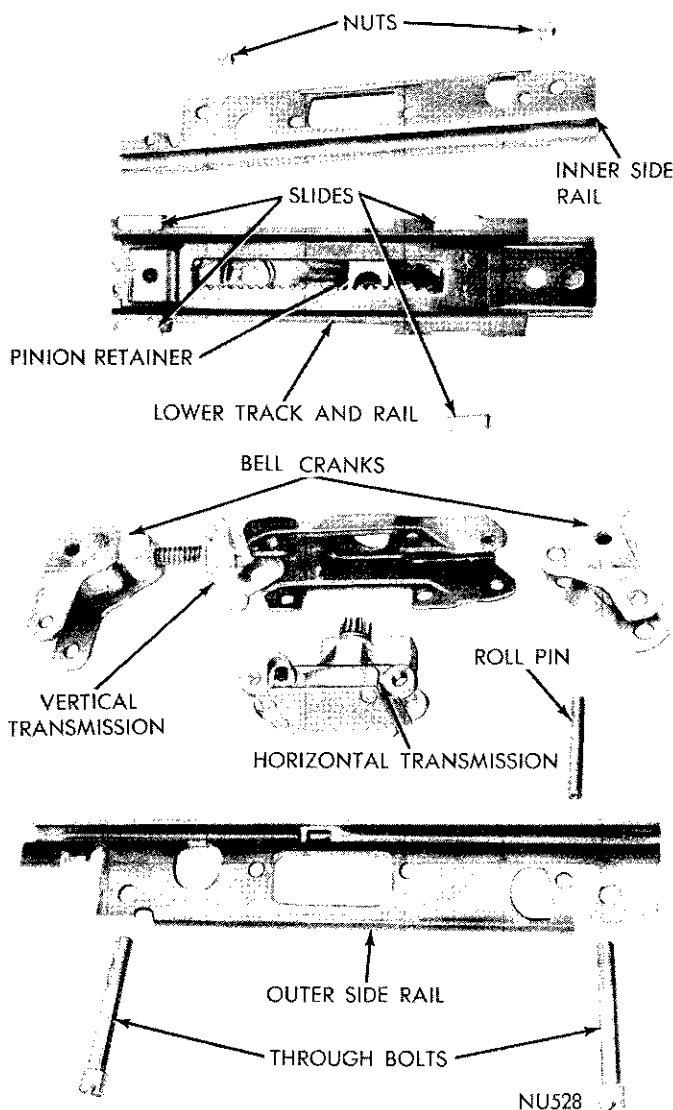

Fig. 6—Side Rail (Disassembled)
(4) After clevis pin is removed, slowly release the tension on the vertical spring.
(5) Remove cotter key and rear (3/8") clevis pin and upper channel assembly.
(6) Remove horizontal spring.
(7) Remove the through bolts from each end of the side rail assembly.
(8) Remove the through bolts from the transmission assemblies and separate rails and transmission assemblies (Fig. 6).